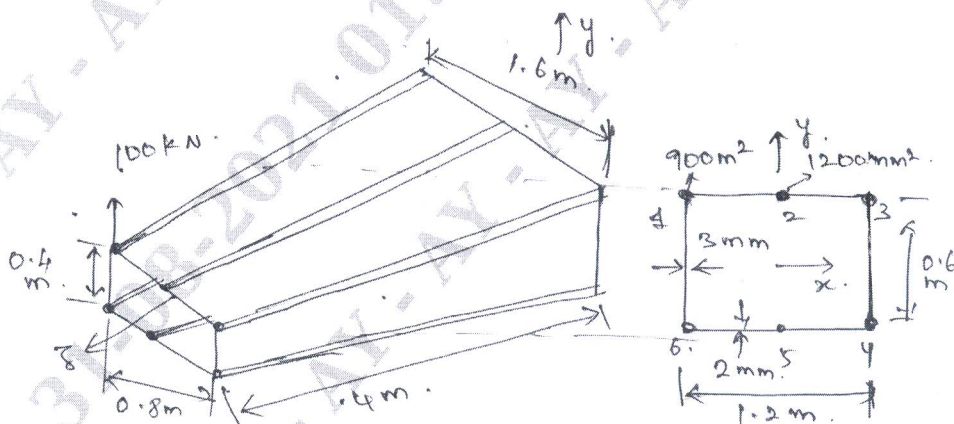

Fig. Q7 (a)
- 7 The Cantilever beam shown in Fig. Q7 (a) is uniformly tapered along its length in both x and y directions and carries a load of 100 kN at its free end. Calculate the forces in the booms and the shear flow distribution in the walls at a section 2 m from the built-in end if the booms resist all the direct stresses while the walls are effective only in shear. Each corner boom has a cross sectional/ area of  $900 \text{ mm}^2$ , while both central booms have cross sectional areas of  $1200 \text{ mm}^2$ . (16 Marks)